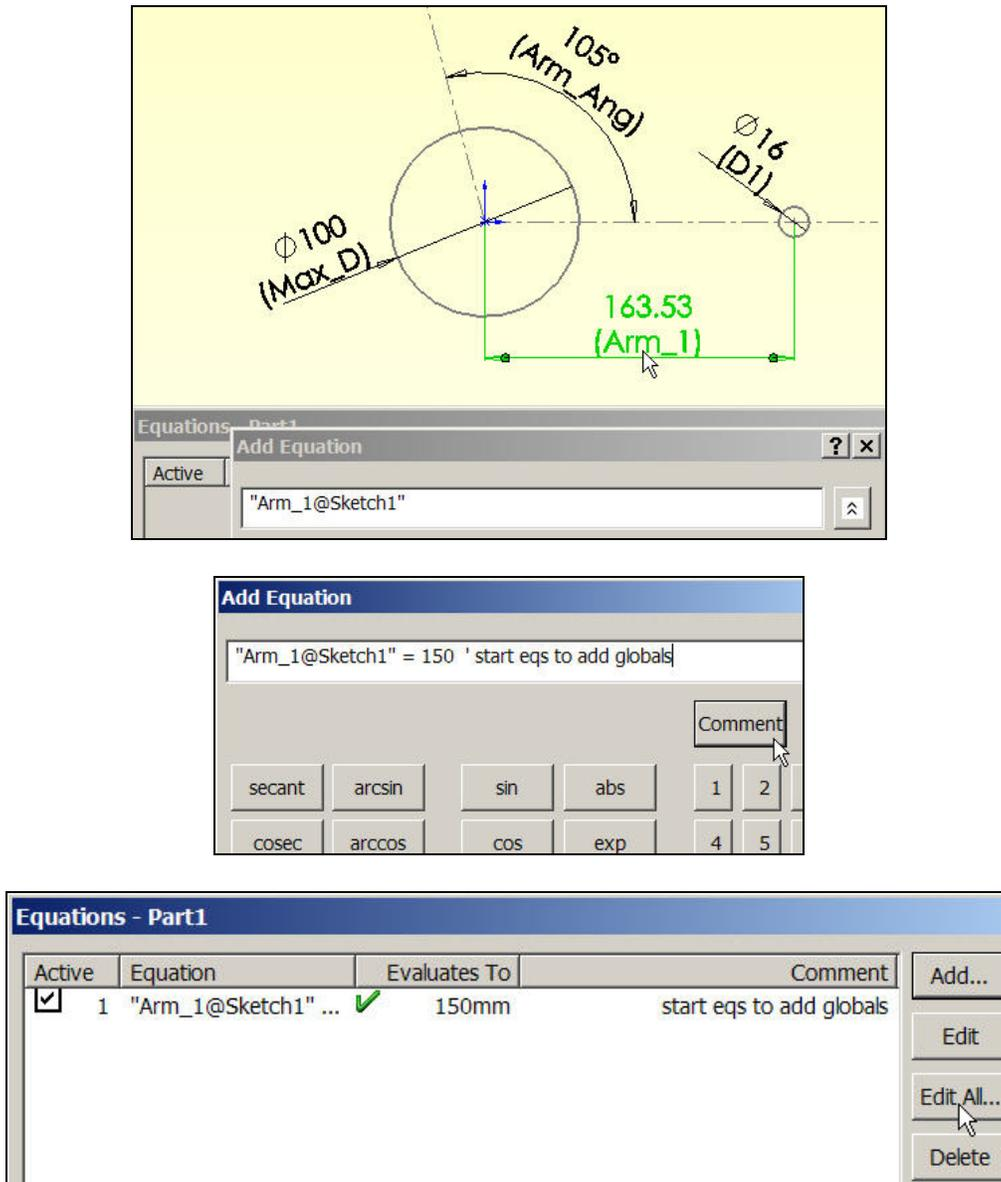

Figure 4 Beginning the design equations process.
The dimension Arm\_1 will now be defined in an equation by making it a function of a global design parameter. There are two ways to start up design equations. Here you begin with the existing Arm\_1 dimension, in Figure 3 lower right and top of Figure 4:
3. Use the lower **calculator** panel to add the desired initial length, say = 150 mm, **OK** (see middle of Figure 4).
4. Figure 4 (bottom) the green checkmark indicates that SW could solve the equation. A red exclamation mark would mean that an equation has failed to solve.
1. Figure 4).